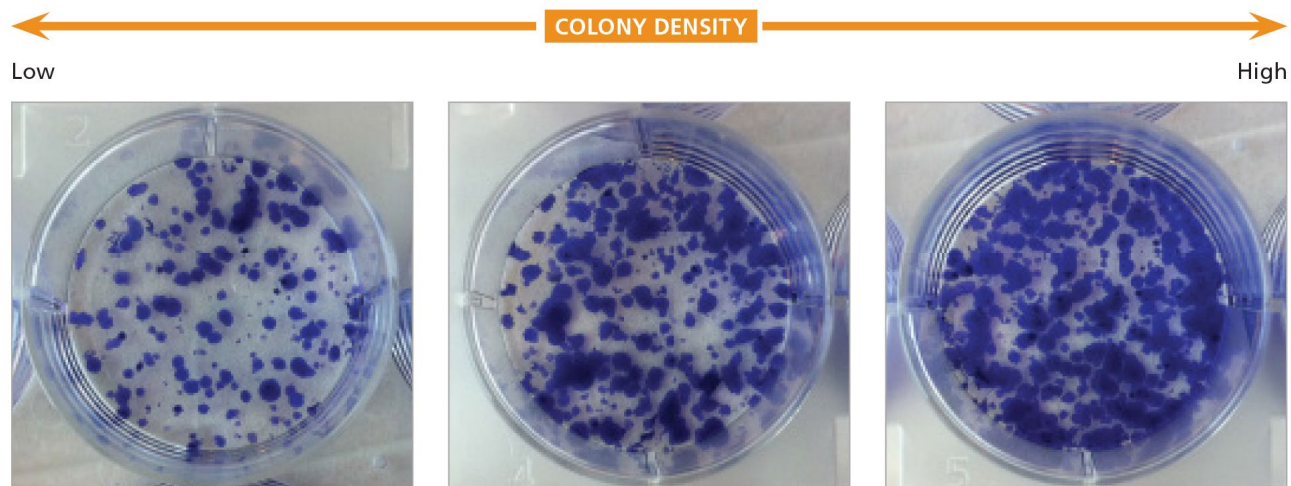

Figure 6. Example Colony Densities for hESC or hiPSC Cultures
**For representative images see Figure 6.
The number of cell aggregates plated at the time of passaging is correlated to the colony density observed at the next time of passaging. By altering the split ratios at the time of plating, you can increase or decrease the colony density as desired. For example, a lower split ratio at the time of plating (i.e. plating more cell aggregates) will result in a higher colony density at the next passaging time. Typical split ratios are 1 in 10 to 1 in 50; however, this can vary depending on the passaging schedule, the cell line used, and the individual operator. Refer to Figure 6 for a recommended range of colony densities that should be observed at the time of passage. Counting cell aggregates is an alternate way to determine and adjust plating densities (see Appendix 1).